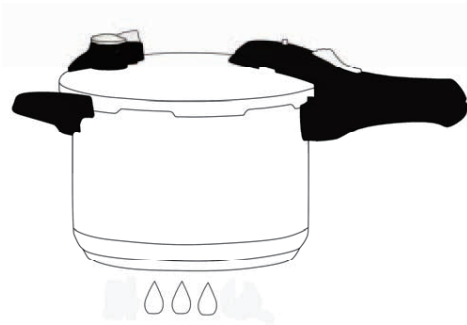

Figure 12
- When steam escapes steadily from the pressure regulator, reduce the heat and set your cooking time as indicated by your recipe or according to your own preferences. See figure 12.